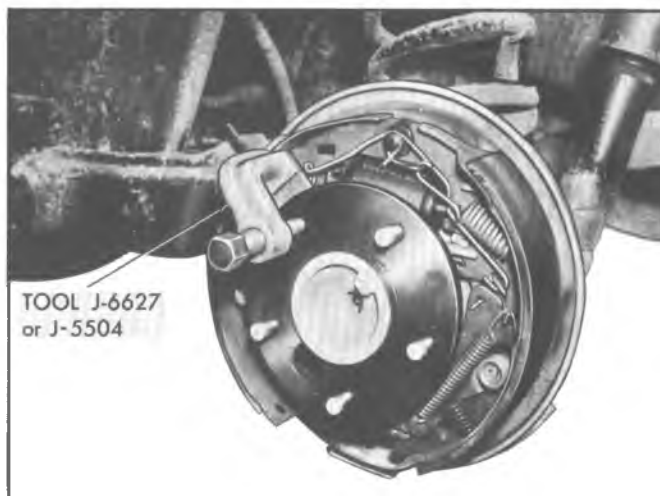

Fig. 56—Pressing Out Wheel Stud
3. Using Tool J-5504 or J-6627 press out stud as shown in figure 56.